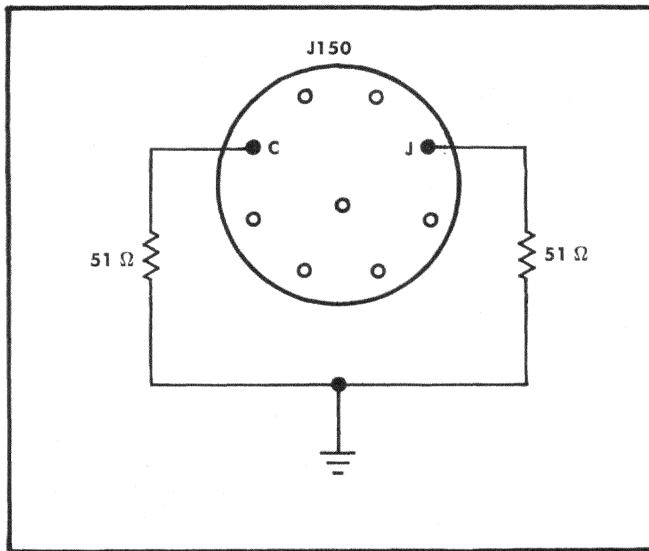

Fig. 4-1. Test setup for checking amplifier DC and low-frequency response.
2. Disconnect the Probe's Amphenol connector from the Amplifier (or the 1A5). Then connect two 51  $\Omega$  resistors between ground terminals C and J of J150, as shown in Fig. 4-1. Be careful not to contact other terminals of J150; as much as 100 V may be present on them.